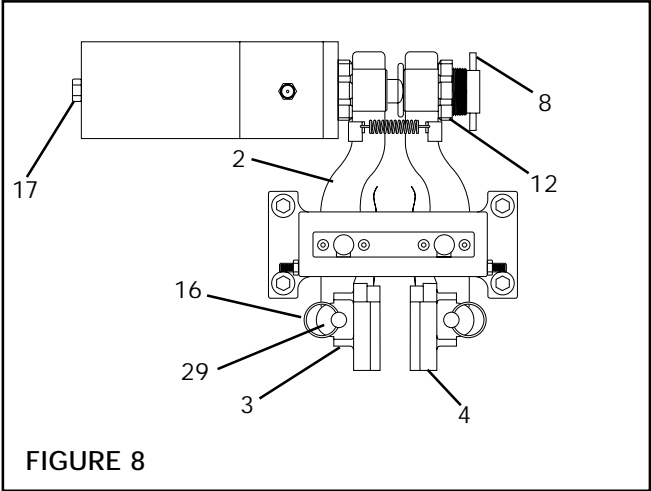

FIGURE 8
1. Remove the Vent (Item 17) from the back of the Actuator (See Figure 8).
3. Remove Detent Pins (Item 16) to release Friction Facings (Item 4), Shoes (Item 3), and Belleville Disc Springs (Item 29) from Brake Arms (Item 2) (See Figure 8).
4. Remove Friction Facings (Item 4) from the Shoes (Item 3) by removing the old Machine Screws (See Figure 8).
7. Loosen adjustment screw Spanner Nut (Item 12) and back out Adjustment Screw (Item 8) until the Friction Facings, Shoes, and Belleville Disc Springs will slide back onto the Brake Arms (Item 2) (See Figure 8).
8. Replace the Detent Pins (Item 16) (See Figure 8).